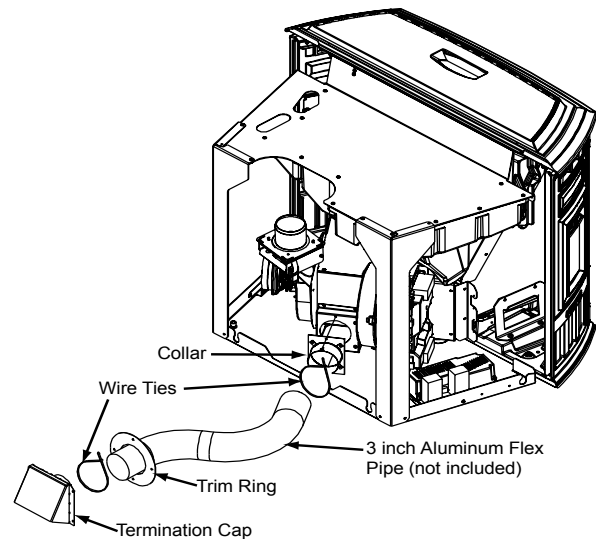

Figure 19.2 - OAK Exploded View
8. Open the door and attach the hearth support to the insert. There are 9 attachment holes (**Figure 19.2 on pg. 19**).